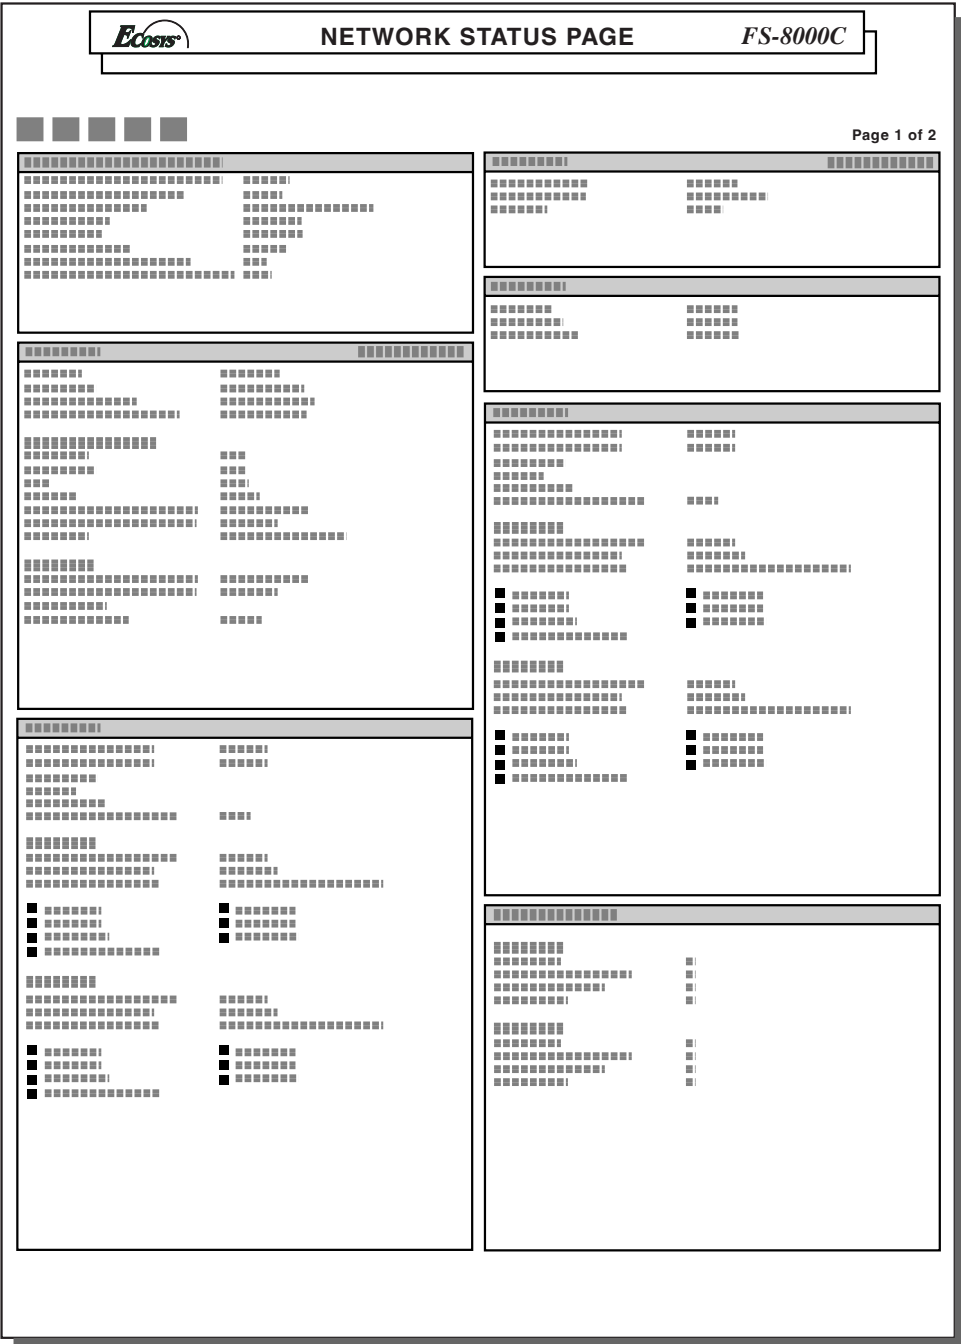

Figure 3-7
You can have your printer print out a network status page when the printer prints the status page. The network status page shows the network addresses, and other information under various network protocols about the network interface card. The default setting is On (print). A sample network status page is shown on *Figure 3-7 on page 3-46*.
- 9** Press the **MENU** key. The display returns to Ready. The printer prints a network status page as an example shown in Figure 3-7 below.